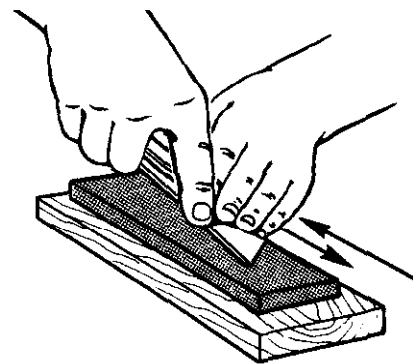
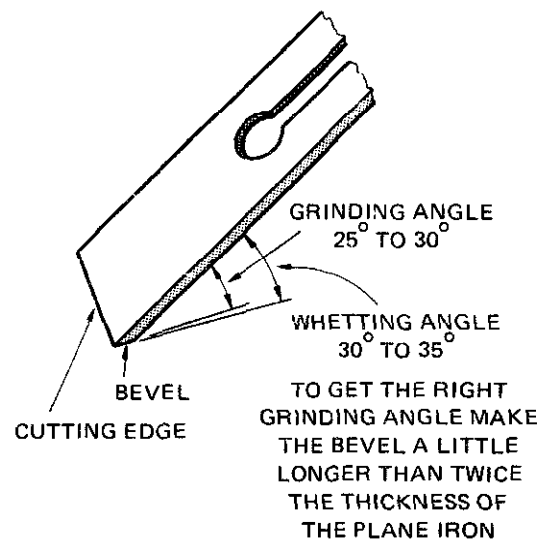

Fig. 8-59 Whetting the bevel side.
Fig. 8-60 Grinding and whetting angles.
3. Hold the plane iron in the right hand with the left hand helping to hold it against the stone. See figure 8-59.
edge slightly (30 degrees to 35 degrees, as shown in figure 8-60), and move the plane iron back and forth over the stone as indicated by the arrows in figure 8-59. Use an even, medium pressure on the forward stroke and less on the return stroke. The angle between the stone and iron must be kept the same. Try not to rock the iron as it is moved back and forth or the bevel will be rounded.